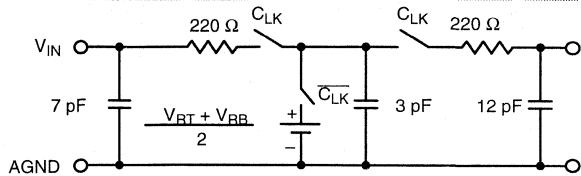

Figure 2. Input Equivalent Circuit
- 5 See V_{IN} input equivalent circuit (Figure 2). Switched capacitor analog input requires driver with low output resistance.
The ideal ADC is a linear building block that has infinite bandwidth and no phase distortion. A real ADC, however, exhibits finite bandwidth and non-constant group delay characteristics as well as non-linear behavior due to the non-zero INL characteristic. When modeling the ADC as a linear element and a quantizer, the circuit shown in Figure 2. can be used in order to represent the ADC's bandwidth.
1. Driving the analog input – The input impedance can be represented as a switched capacitor type input circuit, i.e. the input impedance changes with the phase of the input clock. Figure 2 shows an equivalent input circuit. In many applications, the input impedance can be treated as capacitive. For fast signals and a high driving impedance, a wide bandwidth op amp is recommended.